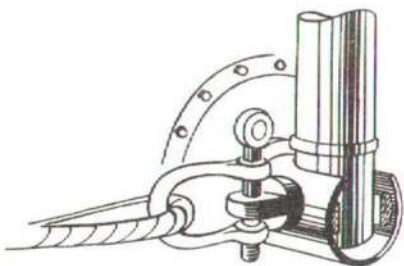
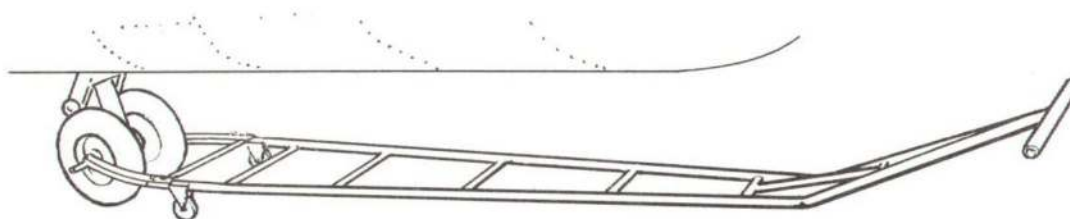
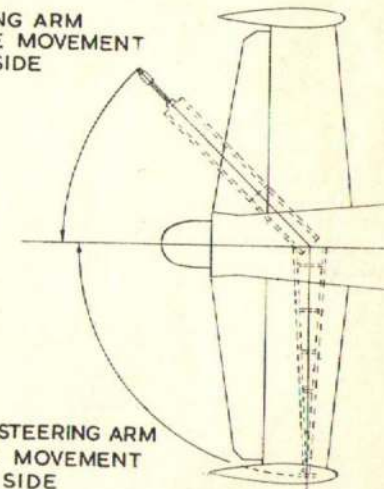

Fig.3. Attachment of bridle to undercarriage
Fig.4. Tail wheel steering arm
Fig. 7. Towing and steering arm—turning limitations
2. A towing bridle, Ref.No.4G/4139, is attached to the eye-bolt at the bottom of each inner shock-absorber strut (fig.3) and a tail-wheel steering arm (fig.4) is attached to the twin tail-wheel axle. Reference should be made to fig.7 for the maximum turning movement of the steering arm.
Backward towing (fig.4,5,6 and 7)